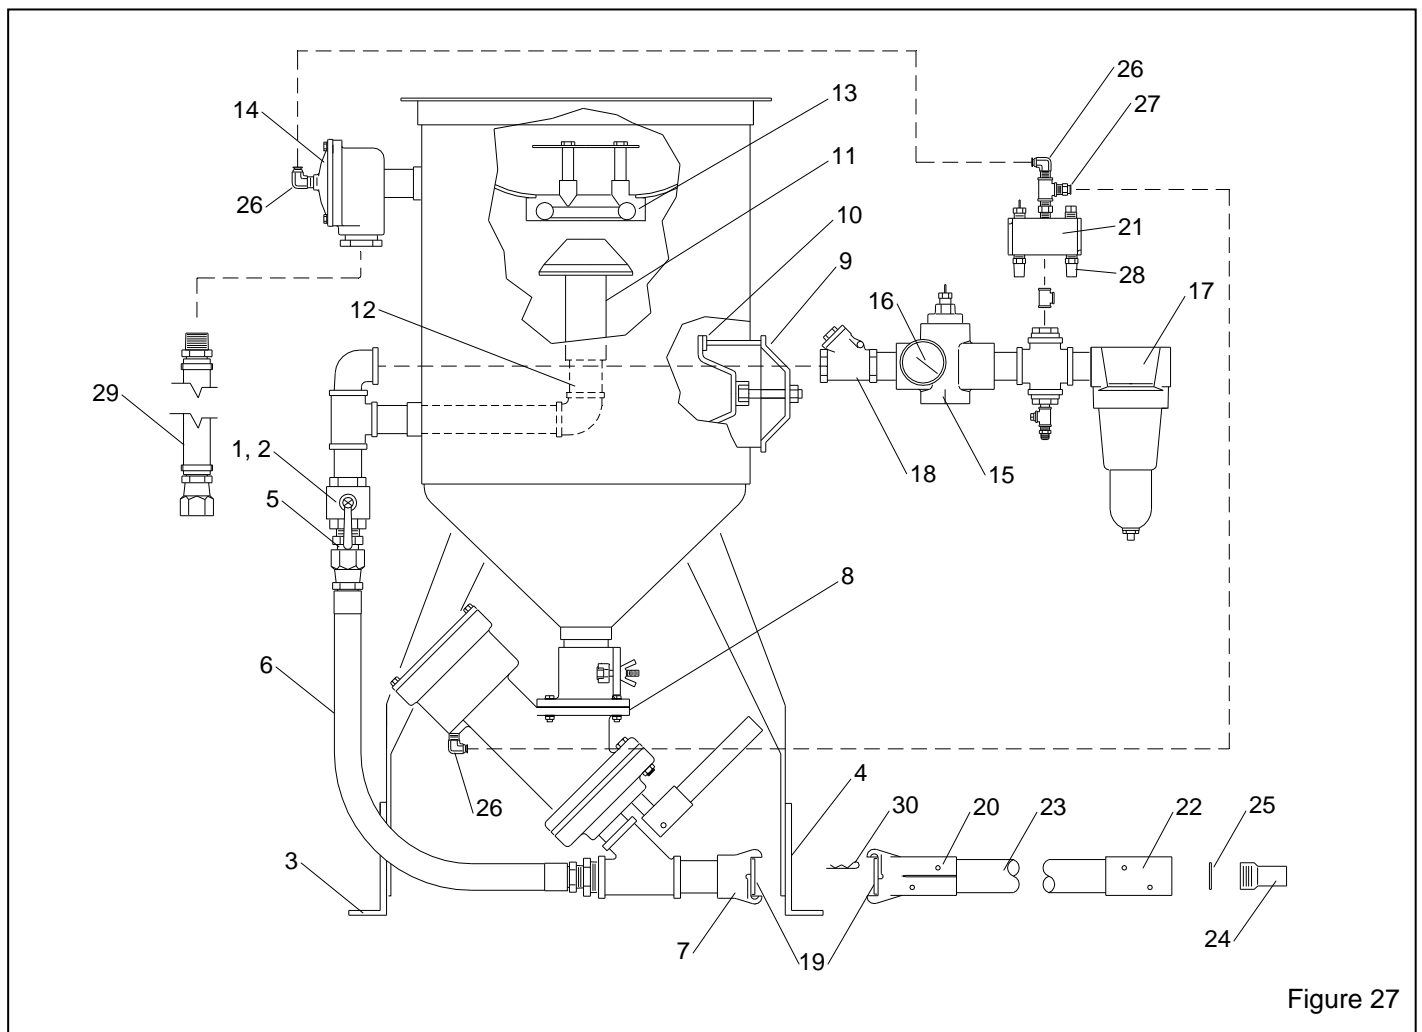

Figure 27
9.6 Blast Machine and Accessories, Figure 27